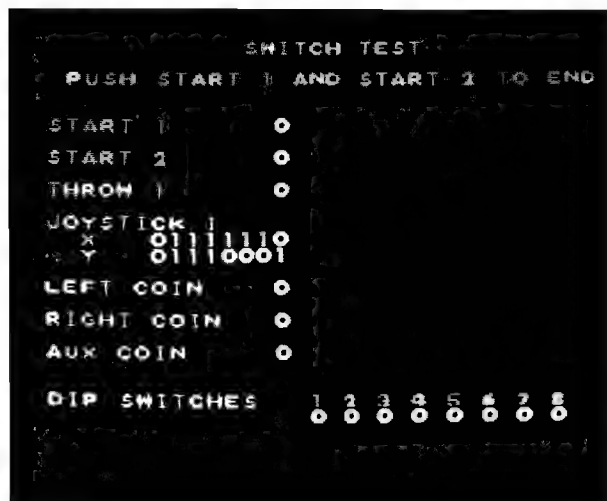

Figure 2-3 Switch Test Display
SWITCH TEST displays the state of the control panel switches, the joystick values, the coin inputs, and the dual-inline-package (DIP) switches as shown in Figure 2-3. A one (1) indicates that the switch is on, and a zero (0) indicates it is off. All eight bits are displayed for each direction of the joystick. Push both the one- and two-player start buttons to end this test.